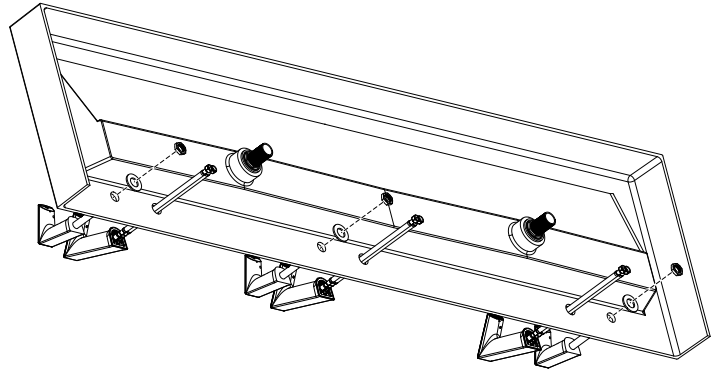

Figure 19
5. Install Faucet and Soap spouts, (Figure 19) onto sink according to manufacturer's instructions provided with component.